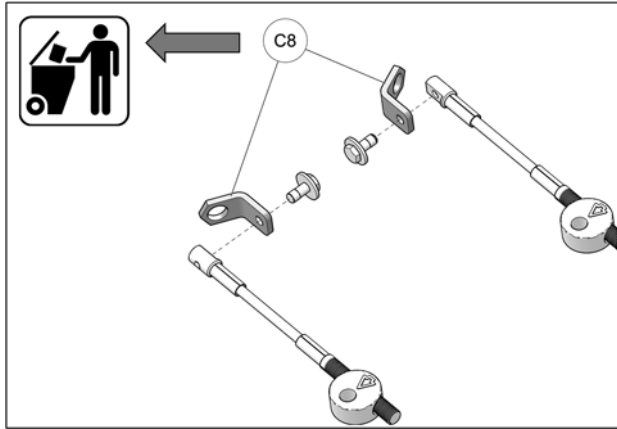

Fig. 18
7. 2015 and later front track systems: Stabilizing arms have an integrated Steering Limiter holding plate. It is not necessary to install the holding plates (C8) provided in the Steering Limiter kit. See Fig. 18